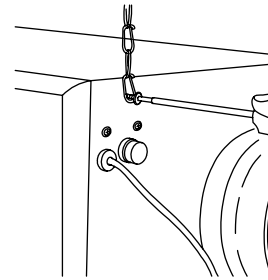

Fig. 4 — Install Hanging Chain
2. Attach a hanging chain (provided) to each no. 10 ³/₄-in. bolts (provided) on the top 4 corners of the unit and tighten. See Fig. 4.
3. Hang the unit by slipping a link onto the hanging hooks, making sure the unit is level. Unit condensate will not drain properly unless unit is level. See Fig. 4.